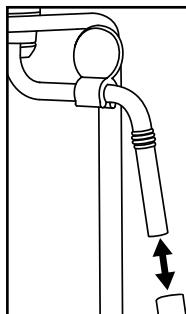

Figure 3
- 1) Place an empty container under the milk frother ⑩.
- 2) Immediately after use, turn the steam control ⑦ to the "+" position and allow the steam to escape for a few seconds.
- 3) Turn the steam control ⑦ off (as far as it will go in the direction "—"), switch the appliance off and remove the plug from the mains power socket.
- 5) Pull the casing of the milk frother ⑩ off (Figure 3) and clean it thoroughly in warm water.
- 7) Push the casing back onto the nozzle (Figure 3).